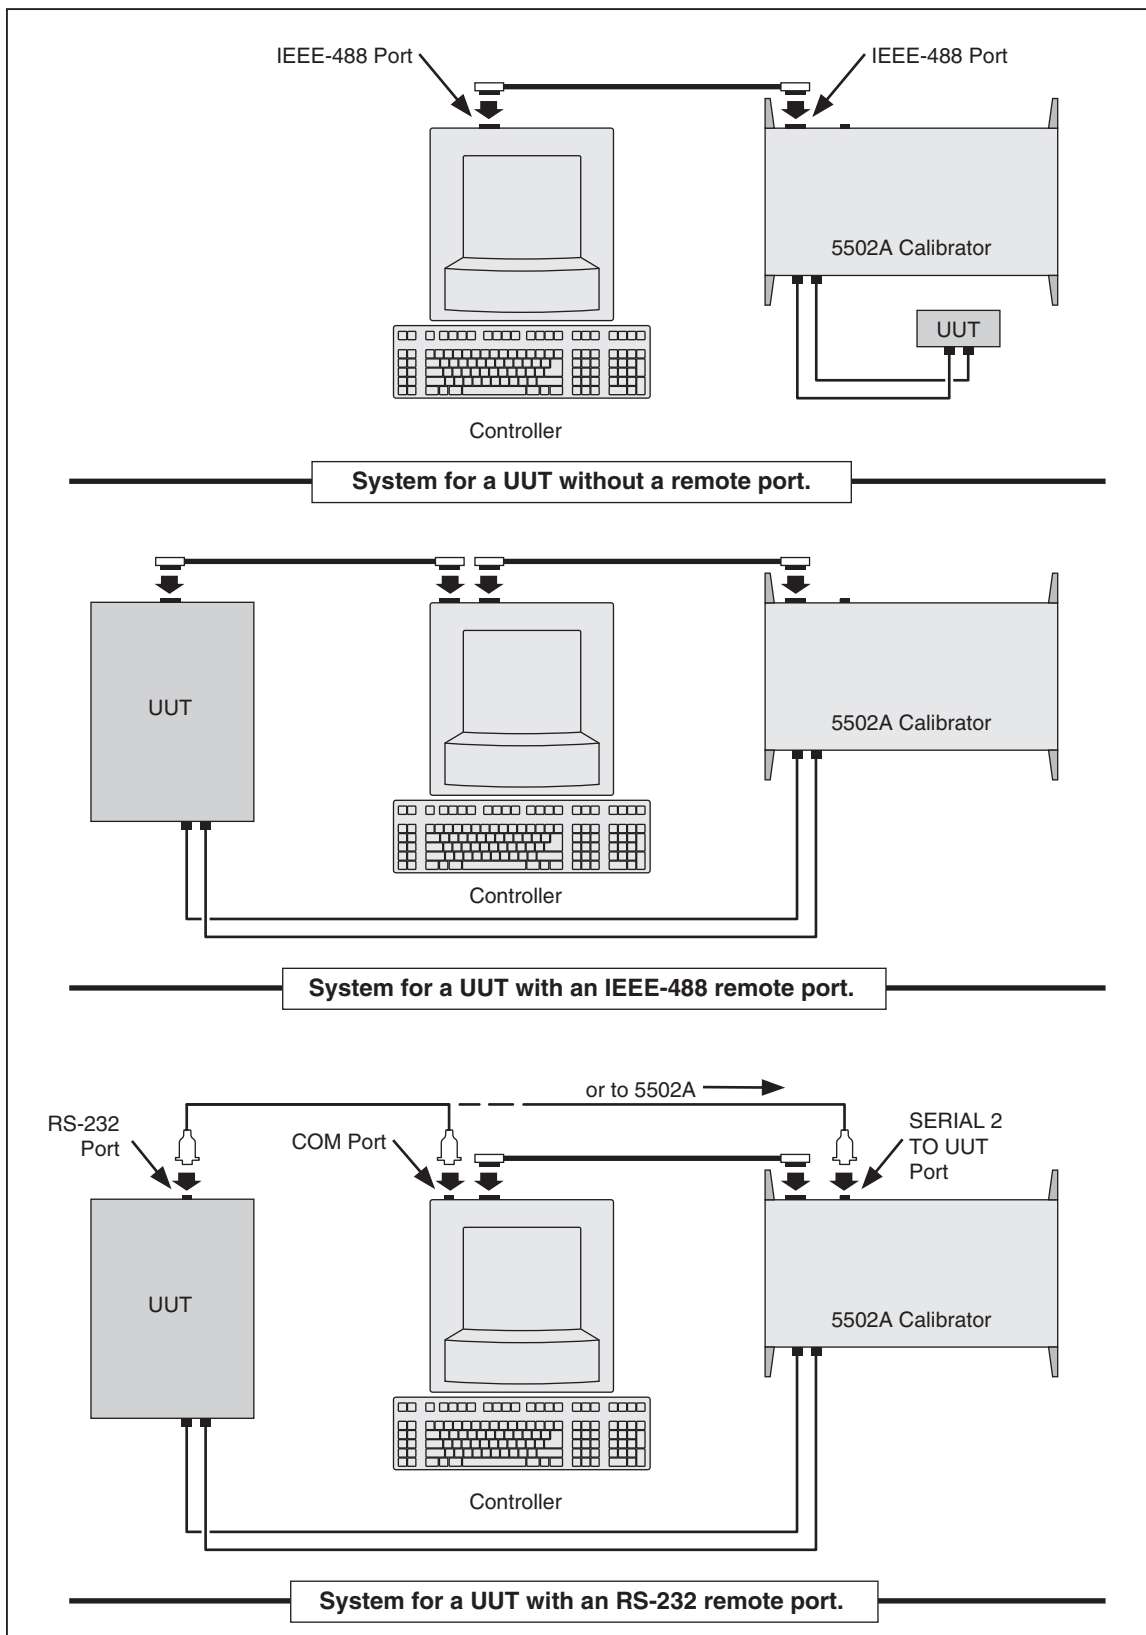

Figure 5-1. Typical IEEE-488 Remote Control Connections
IEEE-488 The IEEE-488 parallel port is usually used in larger control and calibration systems. An IEEE-488 system is more costly to set up, but can control multiple Calibrators and multiple UUTs. Also, parallel system throughput is faster than serial system throughput. The controller in an IEEE-488 system is typically a MS-DOS compatible personal computer (PC) that has one or more IEEE-488 ports. You can write your own computer sequences for system operation with the command set, or you can purchase optional Fluke Calibration software MET/CAL Plus. Typical IEEE-488 configurations are shown in Figure 5-1. The configuration that shows the PC with two IEEE-488 ports is used with MET/CAL. For this configuration, put the Units Under Test (UUTs) on isolated IEEE-488 port. You can also “piggy-back” the connectors on one IEEE-488 port.